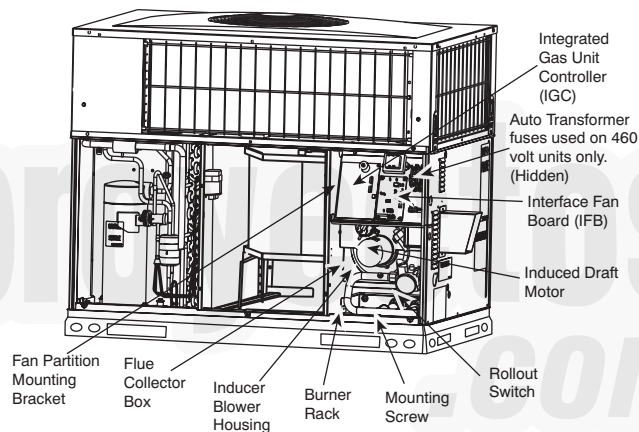
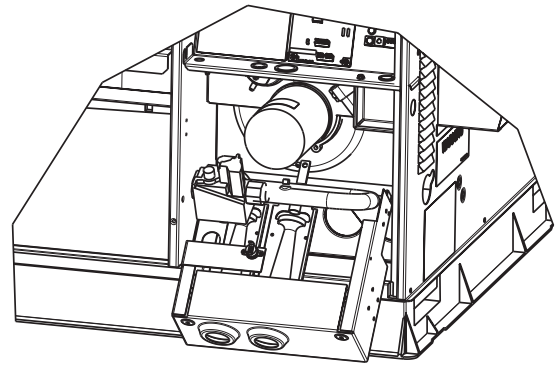

Fig. 33 – Blower Housing and Flue Collector Box
Fig. 36 – Burner Rack Removed (Standard and Standard Low NOx Models Only)
3. Slide the assembly out of the unit. (See Fig. 36). Clean the blower wheel. If additional cleaning is required, continue with Steps 4 and 5.
2. Remove the 11 screws holding the flue collector box cover (See Fig. 33) to the heat exchanger assembly. Inspect the heat exchangers.
Unit is equipped with a direct spark ignition 100 percent lockout system. Ignition module (IGC) is located in the control box (See Fig. 33). Module contains a self-diagnostic LED. During servicing, refer to label diagram or Table 14 in these instructions for LED interpretation.
5. Remove fan partition mounting bracket (2 screws located on the left side of control compartment on the fan partition panel). Slide bracket forward, bottom first, to remove. (See Fig. 33.)
7. Remove the mounting screw that attaches the burner rack to the unit base (See Fig. 33).
8. Partially slide the burner rack out of the unit (see Fig. 33 and Fig. 36). Remove ignitor and sensor wires at the burner assembly. Remove wires to rollout switch.
9. Slide the burner rack out of the unit (See Fig. 33 and Fig. 36).